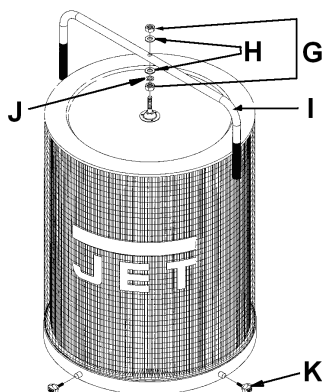

Fig 12
Mount the handle (I, Fig 12) with 2 hex nuts (G), flat washers (H) and a lock washer (J).
To clean the filter on DC-1900CK, turn the handle (I, Fig 12) a couple of rotations so the dust falls into the collector bag.